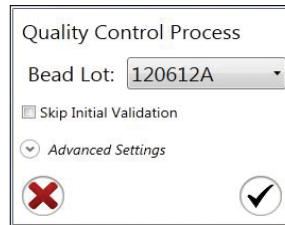

Fig. 2. Quality Control Process window with example bead lot file in the dropdown menu.
4. Select your Bead Lot in the Quality Control Process window and click the **checkmark** (Figure 2). The software will perform both event-based alignment and drop delay setting.